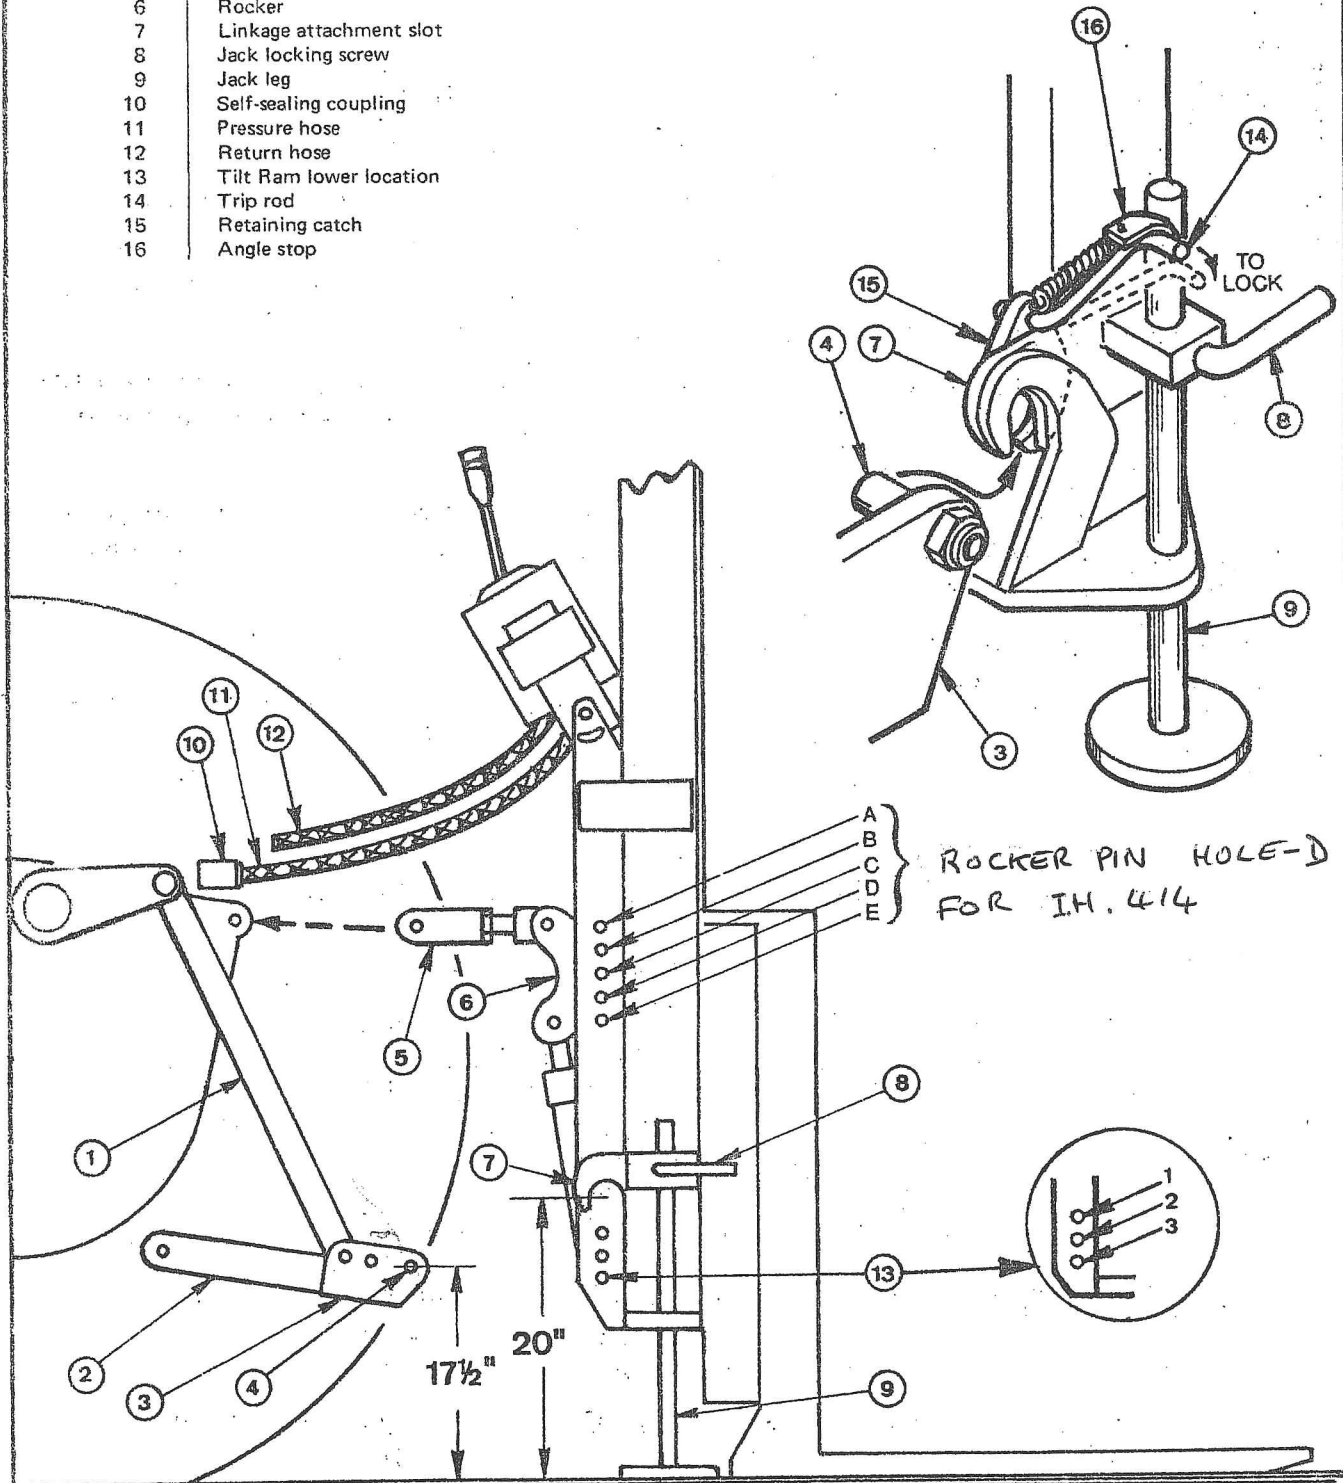

FIGURE 1 - TRACTOR/TAILSLAVE ATTACHMENT FEATURES
c. Three Point Linkage (Refer to Section 2 and Figure 1)
2. Preparation of Tail Slave (Refer to Section 2 and Figure 1)
3. Attachment Procedure (Refer to Figure 1)
- a. Position the tractor with both crossbeam attachment pins abutting Tail Slave linkage attachment slot plates. Raise the tractor linkage frame to engage the crossbeam attachment pins (4) in both Tail Slave attachment slots (7).